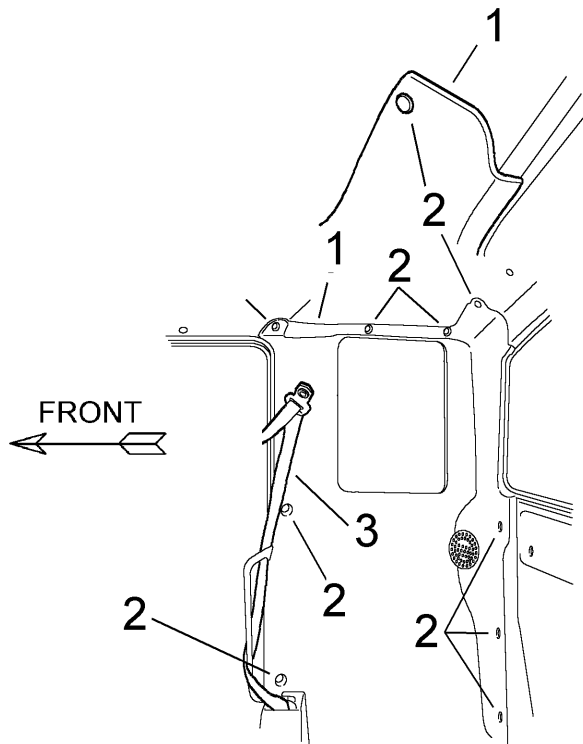

Figure 5 Side and Corner Trim Panel, Passenger Side Shown
4. Remove side and corner trim panel (Figure 5).